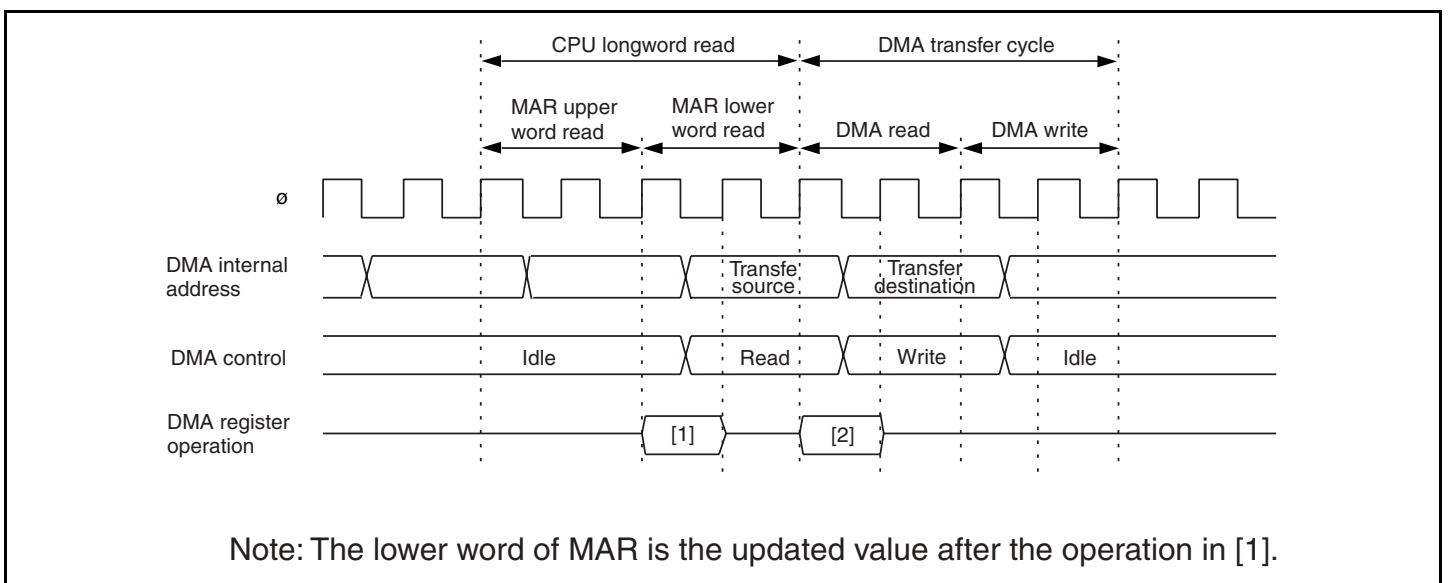

Figure 7.40 Contention between DMAC Register Update and CPU Read
- If a DMAC transfer cycle occurs immediately after a DMAC register read cycle, the DMAC register is read as shown in figure 7.40.